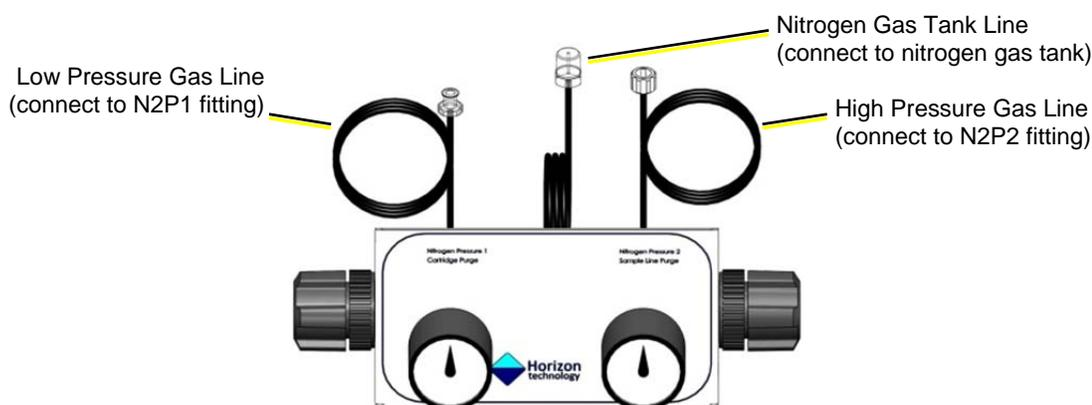

Figure 5-2. Nitrogen Gas Regulator/Bracket Assembly
SPE Cartridge (N2P1) - Low Pressure Nitrogen Gas Inlet Fitting	N2P1 is used for low pressure nitrogen to purge the SPE cartridge of residual reagents and water, with pressure typically at 5–10 psi. N2P1 is connected directly to V1 (refer to the description of the Reagent Valve and the Plunger). The gas pressure is controlled from the nitrogen gas regulator/bracket assembly. (Refer to Figure 5-2)
Sample (N2P2) – Nitrogen Gas Inlet Fitting	N2P2 is used for nitrogen to spray reagent rinse directly into the sample bottle, with pressure for Clean Sample Lines and sample homogenization at 2-4 psi and Bottle Rinsing at 10-20 psi. N2P2 is connected directly to the sample valve V2 (refer to the description of 12-Port Switching Valves). The gas pressure is controlled from the nitrogen gas regulator/bracket assembly. (Refer to Figure 5-2)
Step 5: If nitrogen will be used, on the nitrogen gas regulator/bracket assembly, locate the middle black line (see Figure 5-2). Connect this line to the nitrogen gas tank. A fitting is provided that fits most regulators.